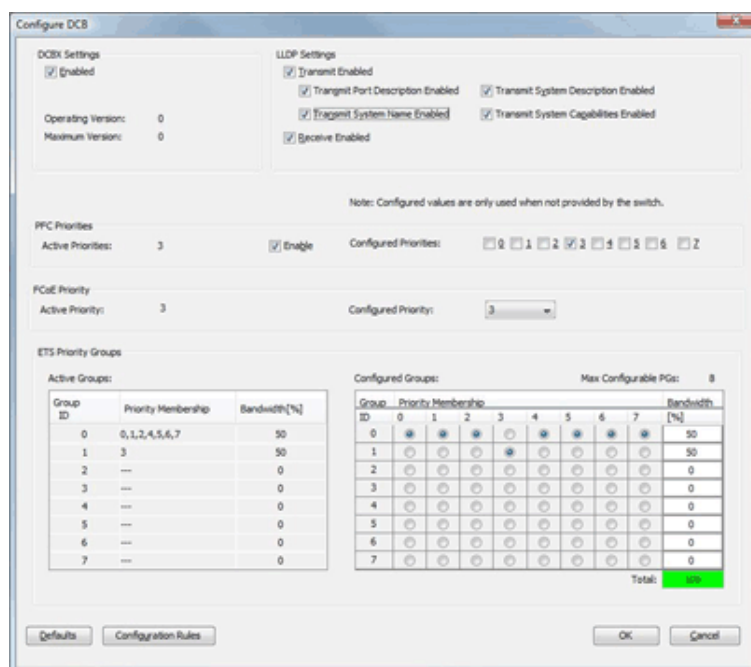

Figure 10-6 Configure DCB Dialog Box for NIC + FCoE Adapter Ports (DCBX enabled)
3. Click **Configure DCB**. The Configure DCB dialog box appears (Figure 10-6 on page 218).